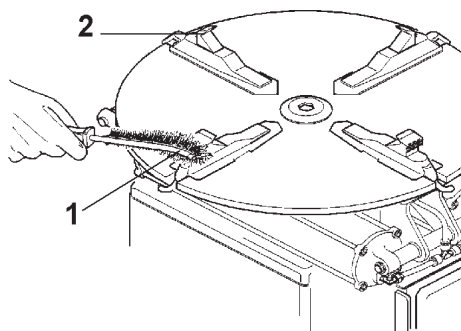

Fig. 6.0-2
**C.** See Fig. 6.0-2. Weekly clean the teeth of the clamps (1) with a wire brush, check the nylon clamping jaw insert (2) and replace if worn.